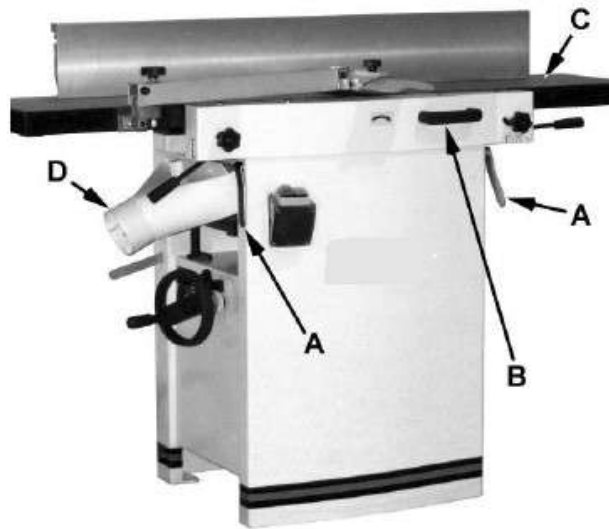

Figure 2
To change the machine configuration jointer to planer (refer to Figure 2):
1. Pull the release knob (F) and reposition the dust chute (D, G) to the left. It should be positioned as shown in D, Fig. 2.
2. Release the latch (E) and bring the table forward using the tilt handle (B). It should be positioned as shown in C, Fig. 2.
3. Lock the table (C) by pushing the lock handles (A) in toward the machine and rotating down (away from the operator).